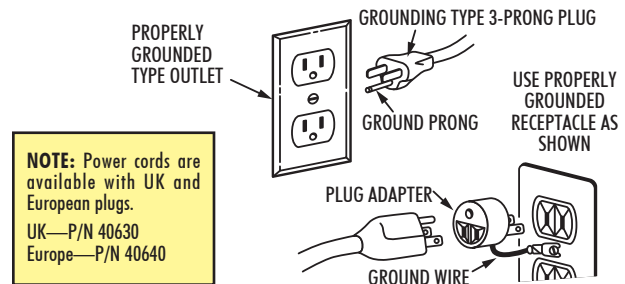

FIGURE 1—Proper grounding for electrical connections.
- 2. Ground All Tools**—If a tool is equipped with a three-prong plug, it should be plugged into a three-hole receptacle. If an adapter is used to accommodate a two-prong receptacle, the adapter wire must be attached to a KNOWN GROUND. Never remove the third prong (see Figure 1).